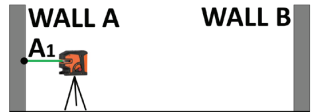

Figure 15
1. Set laser next to Wall A. Mark beam height on Wall A as point A1. (Figure 15)